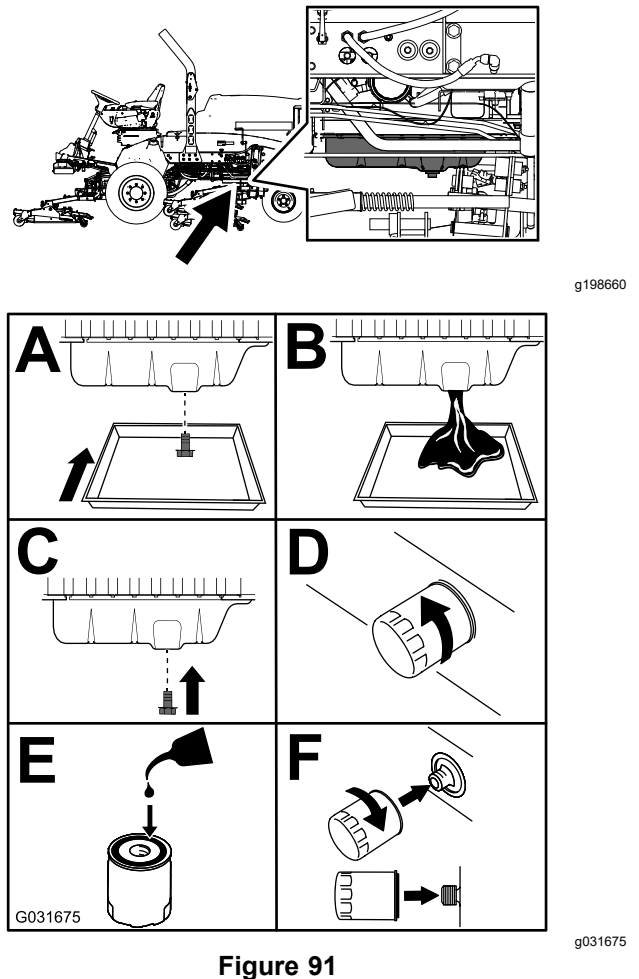

Figure 91
3. Replace the engine oil and filter (Figure 91).